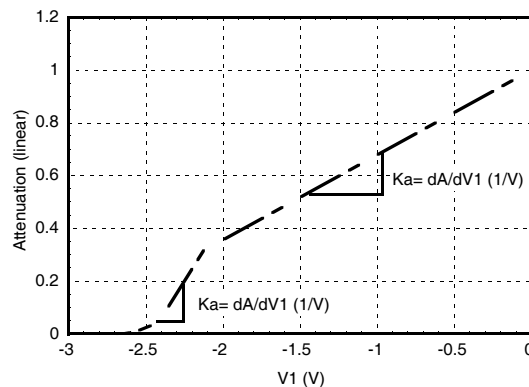
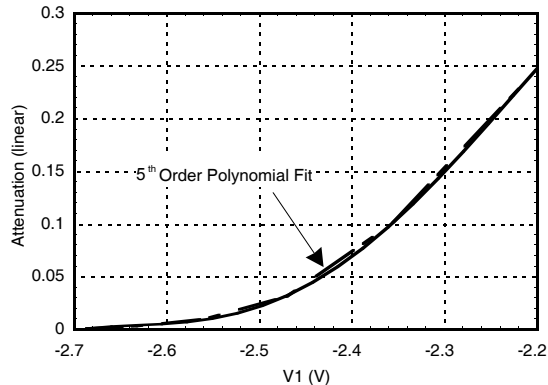

Figure 6 – Attenuation versus control voltage
Figure 7 – Attenuation vs. V1 with polynomial curve fit
where $\mu = k_a \cdot A_m$. Figure 6 shows a plot of attenuation vs. control voltage V1. As depicted in the plot,
In order to calculate the values for k_a an equation is curve fitted to the data in Figure 6. Figure 7 shows the plotted data from -2.125V to -3V and the polynomial that is used to determine k_a . A similar polynomial is determined for the data from 0V to -2.125V.
The derivative of the polynomial fit function in Figure 7 is taken and multiplied by the peak voltage of the modulating signal (0.0025V) resulting in an equation for the modulation index μ which is a function of V1. The calculated values of the modulation index (μ) and the amplitude of the input carrier A_c are substituted into equation (6) and the sideband power calculated.